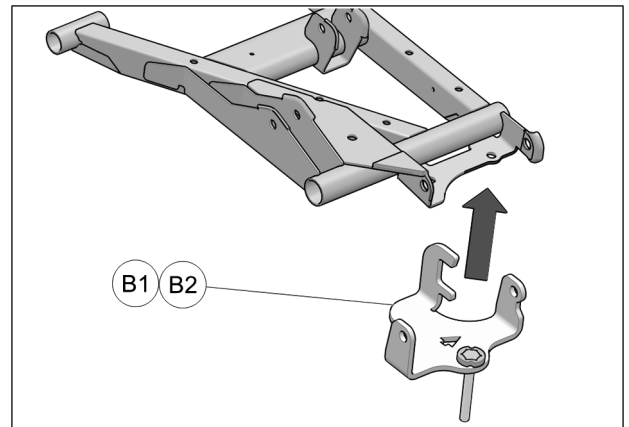

Fig. 7
6. Position the anchor bracket (**B1-B2**) under rear lower suspension arm. Position C-shaped back end of anchor bracket over round tube at the front of the suspension arm. Fig. 7